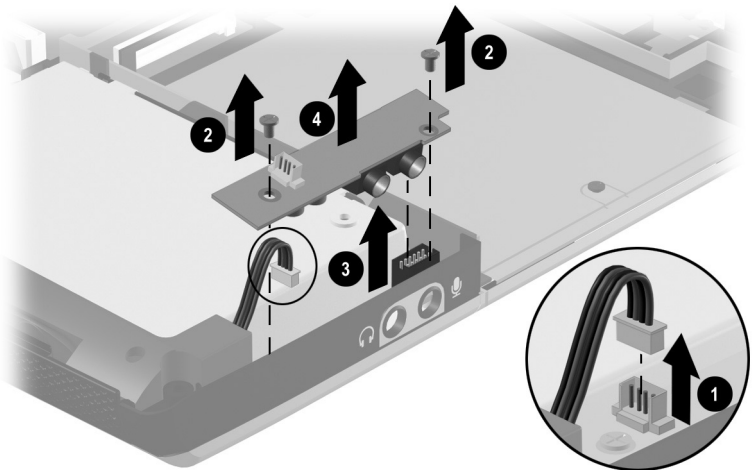

Figure 5-28. Removing the Audio Board
2. Disconnect the speaker cable ❶ from the audio board.
3. Remove the two PM2.0 × 5.5 screws ❷ securing the audio board to the base enclosure (Figure 5-28).
4. Lift the back edge of the audio board ❸ to disconnect it from the system board.
5. Lift the audio board straight up ❹ and remove it from the base enclosure.